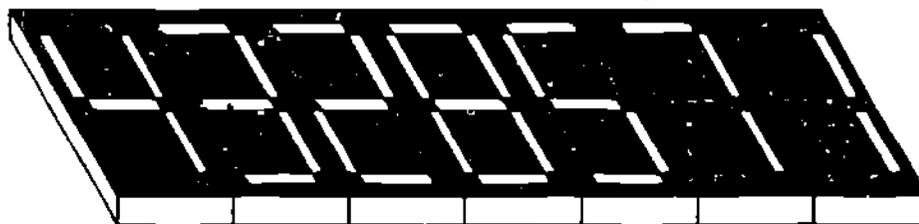

Figure 4
5. Each LED in a seven-segment display is very small. In fact, the actual size of a display number may be no larger than a standard typewritten number. Several seven-segment displays may be put together into a compact package containing any number of displays per package. Figure 4 shows a package containing seven of these seven-segment displays.
The current drain for each number display in Figure 4 varies with the digit displayed. For example, the number "1" requires two LED's to be lit, and draws about 20 mA of current (10 mA per segment). The number "8" requires about 70 mA of current.
In Figure 4, the number "5" draws about _____ mA of current.